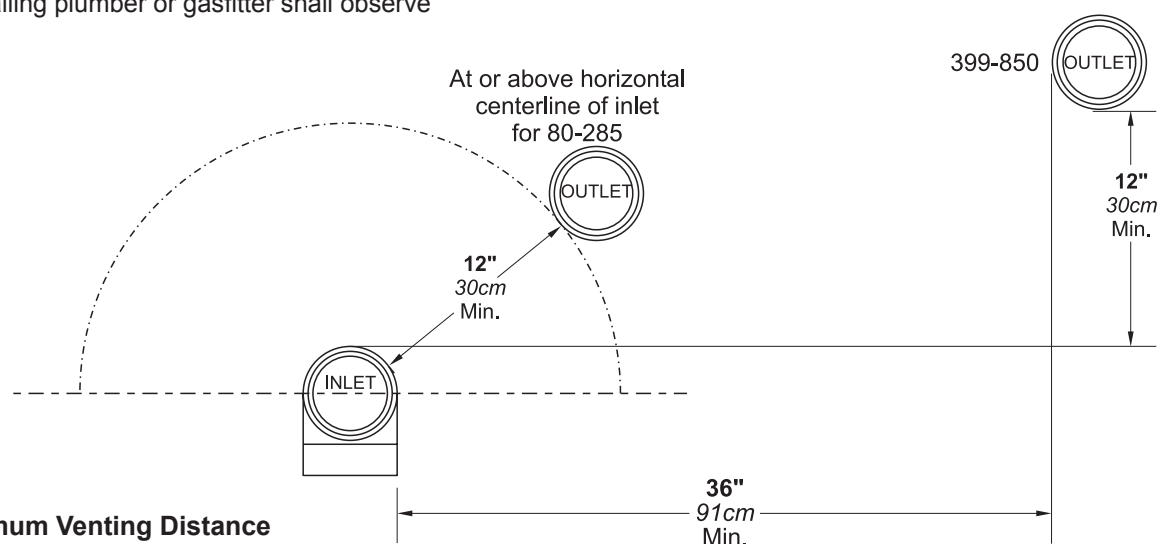

Figure 14. Minimum Venting Distance
6. Multiple vent kits should be installed such that the horizontal distance between the outlet group and the inlet group is 36" (90cm). (Figure 14.)
7. The vent outlet for models 199-285 must be no lower than the center of the air inlet, and must be at least 12" (30cm) away from the air inlet. Vent outlets for models 399-850 must be at least 12" above the top of the air inlet, and must be at least 36" (90cm) horizontally from the air inlet. (Figure 14.)